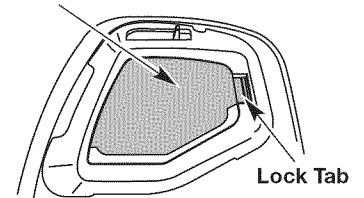

Fig. 33
- Open the air filter cover by pressing the lock tab in and pulling out on the air filter cover (Fig. 33 & 34).